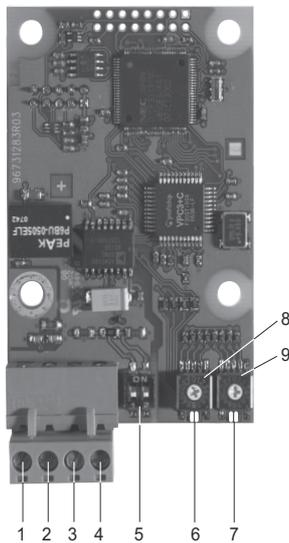

Fig. 4 CIM 150 PROFIBUS module
The power supply (pos. 4, fig. 4) must only be used for external termination.
The CIM 150 PROFIBUS module has two LEDs. See fig. 4.